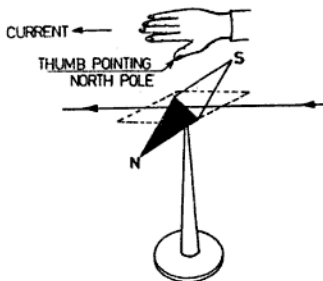

Fig. 6.16 Right hand palm rule
- (i) **Right Hand Palm Rule** Place the palm of the right hand facing the compass needle in such a way that the tips of the fingers will indicate the direction of the current in the conductor thumb should point in the direction of the North pole of the needle as shown in Fig. 6.16.